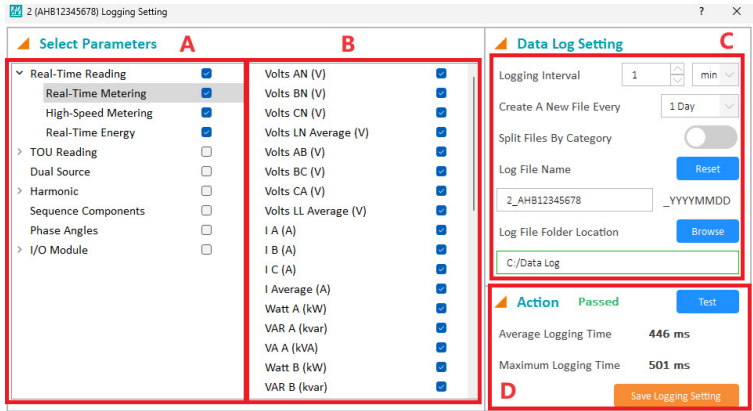

Figure 4-11 Individual Device Data Log Setting
- **Split Files By Category:** Switch on to split the logging files based on the category. Take Figure 4-11 as an example. If this option is turned off, all data will be stored under a file named "2_AHB12345678_YYYYMMDD.csv". If this option is turned on, all data will be separated by the category and store under three files named "2_AHB12345678_Real-Time Metering_YYYYMMDD.csv", "2_AHB12345678_High-Speed Metering_YYYYMMDD.csv" and "2_